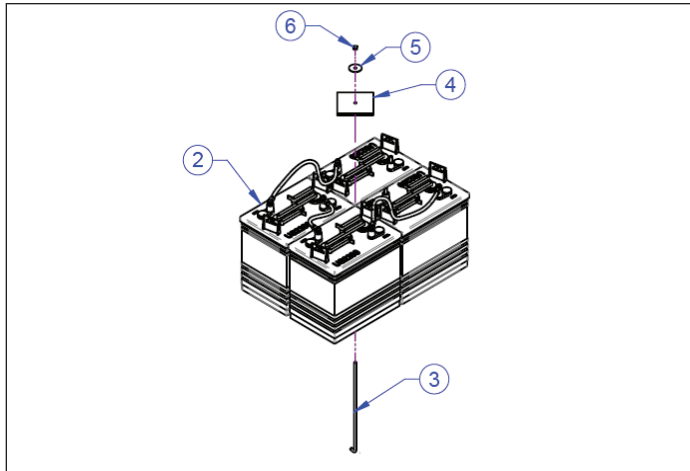

Figure 9-10. Battery and Hold Downs
2. Remove nuts (6), flat washers (5), hold down plates (4) and rods (3). See Figure 9-10. Quantities depend on number of batteries in electrical system.
1. Remove battery hold downs and batteries (Figure 9-10).